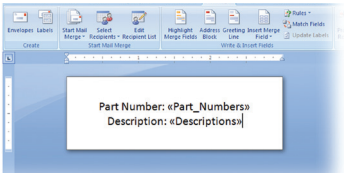

FIGURE 13 Word document ready to receive data from Excel Column B.
K. Select **Column B** header. A **Column B space-holder** (<<Descriptions>>) appears next to the Column B header (Fig. 13).